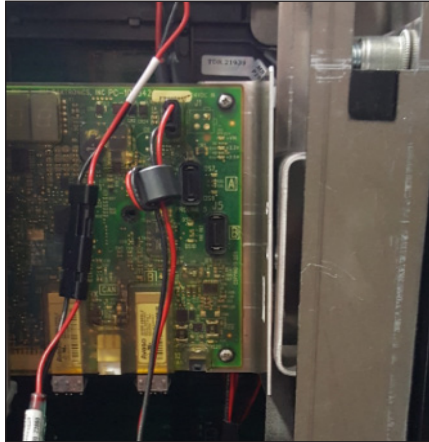

Figure 12: Connect PLR Power to Module Column Accessory Power
- 3. Use the supplied power cable (Daktronics part number W-2152) and Y cable (W-2154) to connect DC power from the module column accessory power. Refer to **Figure 12**.